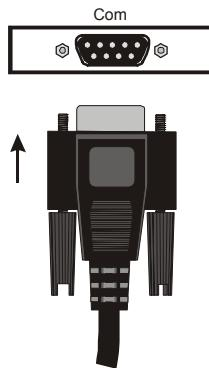

Figure 1-18
- ✓ If you are using a serial cable, connect it to an available COM port on the back of your computer as shown in Figure 1-18.